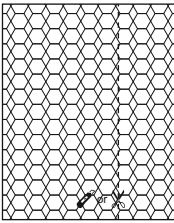

FIG. 23
2. Mark a line on the patterned side of the provided insulation panel according to the measured width in Step 1, then cut out the insulation panel along the line (FIG. 23).